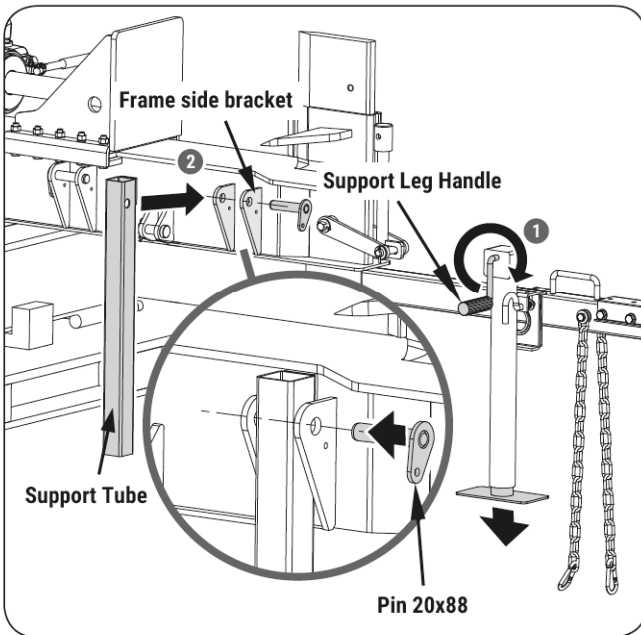

**Figure 2e**
5. Secure the frame by installing M12x30 bolts with flat washers. (See **Figure 2e.**)